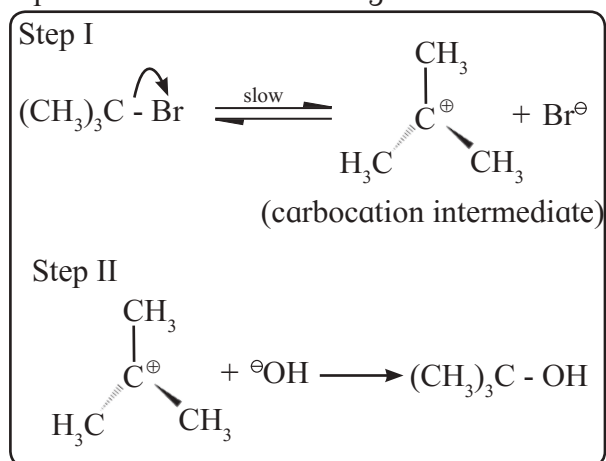

Fig. 10.5 : S_N1 mechanism
It can be seen in this reaction that concentration of only substrate appears in the rate equation; concentration of the nucleophile does not influence the reaction rate. In other words, tert-butyl bromide reacts with hydroxide by a two step mechanism. In the slow step C-X bond in the substrate undergoes heterolysis and in the subsequent fast step the nucleophile uses its electron pair to form a new bond with the carbon undergoing change. This S_N1 mechanism is represented as shown in Fig. 10.5.
- When S_N1 reaction is carried out at chiral carbon in an optically active substrate, the product formed is nearly racemic. This indicates that S_N1 reaction proceeds **mainly** with **racemization**. This means both the enantiomers of product are formed in almost equal amount. Racemization in S_N1 reaction is the result of formation of planar carbocation intermediate (Fig. 10.5). Nucleophile can attack planar carbocation from either side which results in formation of both the enantiomers of the product.
S_N1 : A planar carbocation intermediate is formed in S_N1 reaction. It has no steric crowding. Bulky alkyl groups can be easily accommodated in planar carbocation See (Fig. 10.5). As a result S_N1 mechanism is most favoured in tertiary halides and least favoured in primary halides. (Formation of planar carbocation intermediate results in a